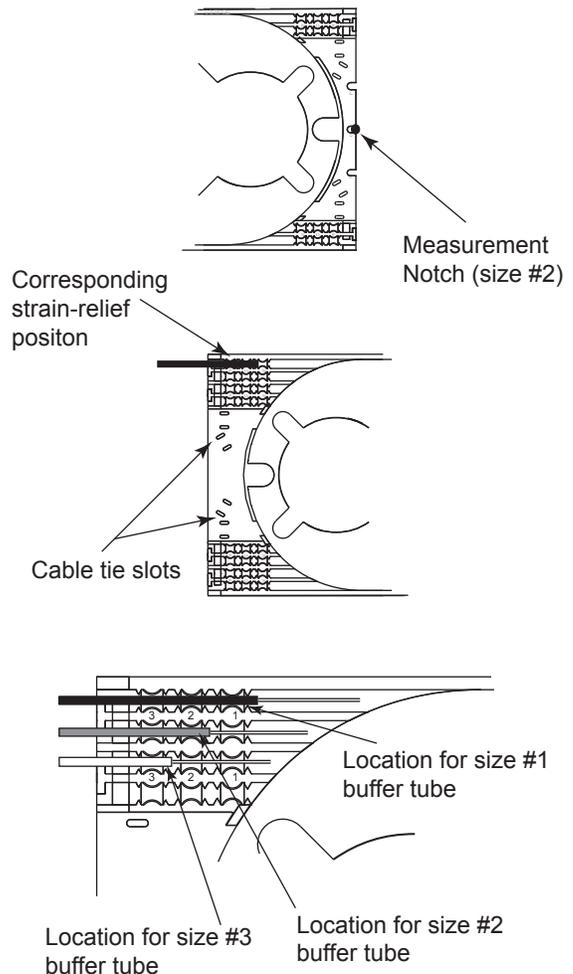

Figure 7
Step 1: Attach buffer tubes at the upper left corner of the tray (Figure 7). If this results in too tight a bend in the buffer tubes, another corner may be used. Place the tray into the closure or shelf to make sure you are using the best location that requires the least bending of the buffer tubes in the closure or shelf.
Step 4: If using 3 mm jacketed fibers or 6- or 12-fiber MIC® subunits, attach these to the tray using the cable ties supplied. If using three 3 mm jacketed fibers, they may be grouped as bundles of up to six fibers. Tape the bundles with vinyl tape to facilitate handling. If using 6-fiber subunits, up to three may be bundled together and cable tied. If using 12-fiber subunits, two may be bundled together and cable tied to tray (Figure 7).